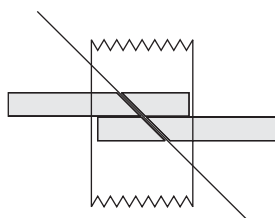

Fig. 11: 45° cuts of belt ends
Step 71: To become familiar with the glueing technique, first practise with a piece of the 4 mm round belt. Cut the ends of the belt at identical 45° angles, in order to increase the glueing surface. To do this lay the ends, facing one another on your cutting surface, overlapping by about 1 cm and directly side by side. Secure them in place with a piece of sticky tape (see fig. 11). Now position a set square or ruler on the belt at a 45° angle, push it down to hold the ends in place and then cut through them with a sharp knife. Remove the tape. You should now have two identical oval cuts at the ends. Roughen the surface up very gently with fine sandpaper and do not touch the cut surfaces with your fingers.